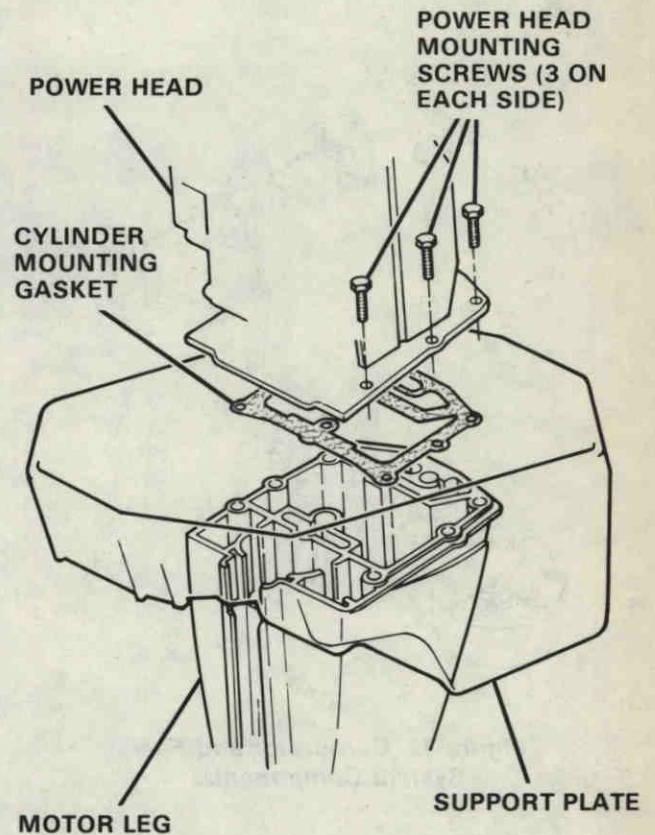

Figure 11. Removing Power Head from Support Plate.
8. Remove six (6) hex screws at base of cylinder and pull power head from support plate. Figure 11.